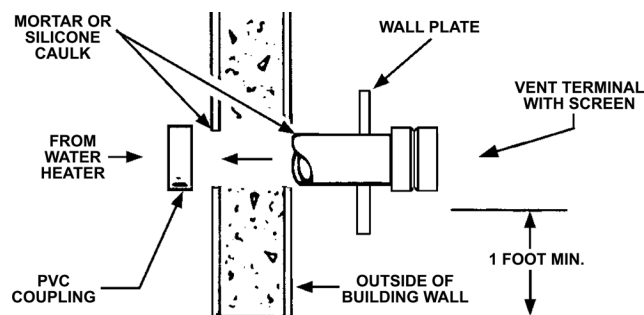
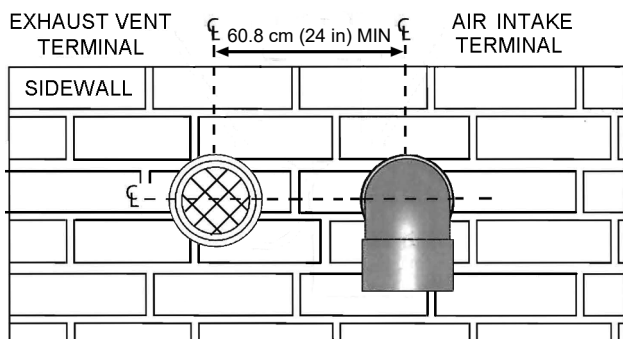
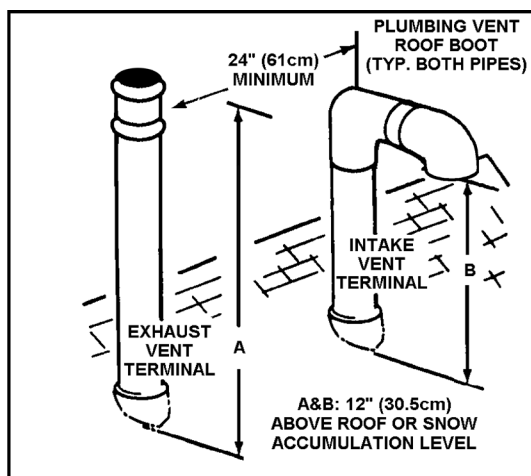

Figure 17. Sidewall Vent Termination
Figure 19. Sidewall Intake/Exhaust Separation Clearance
Figure 21. Vertical Vent Termination Separation Clearance
2. **Through-the-Wall Termination** - horizontal vent termination directly through an outside wall. See **Figure 17** (page 29) .
The first step is to determine where the vent pipe will terminate. The vent may terminate through a sidewall as shown in **Figure 17** (page 29), **Figure 19** (page 30), **Figure 20** (page 30), **Figure 28** (page 34), and **Figure 29** (page 34) or through the roof as shown in **Figure 21** (page 31), **Figure 22** (page 31), **Figure 23** (page 31), **Figure 26** (page 34), and **Figure 27** (page 34).
Instructions on proper installation through a sidewall are provided in **Figure 17** (page 29), **Figure 19** (page 30), **Figure 20** (page 30).
When the unit is to be set up as a direct vent, the air intake screen must be removed. The air intake pipe may then be glued to the air intake provided on the unit. See **Figure 19**.
6. If the air intake pipe is installed up to the wall, with a coupling on the end against the wall opening, the pipe with the air intake terminal can be prepared for gluing before inserting through the wall. Slide the pipe through the wall and insert into coupling on the other side of the wall, making sure that the air intake terminal ends up pointed in the correct position. See **Figure 20** and **Figure 21**.
4. The center line of the air intake termination and the center line of the exhaust vent termination must be no closer than 24" (61 cm). See **Figure 21** (page 31).